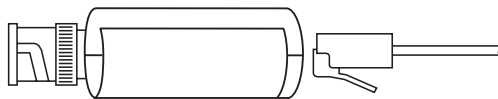

Figure 3-1. Attaching UTP cable to the balun.
6. Connect one end of a UTP cable to each balun's RJ-45 modular jack, as shown in Figure 3-1. These cables must carry at least one wire pair; these wires must be on RJ-45 Pins 7 (ring) and 8 (tip).